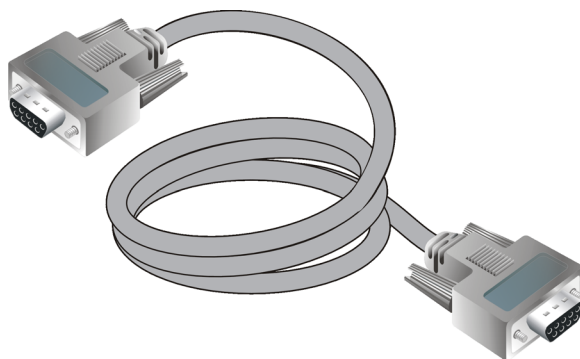

Figure 7: Null modem cable
- **Null modem cable**—An asynchronous RS-232 null modem cable, as shown in Figure 7, is required to configure director network addresses and acquire event log information through the maintenance port. The cable has nine conductors and DB-9 male and female connectors.